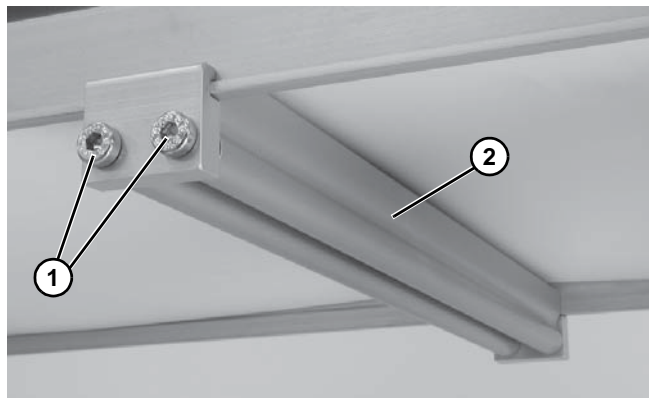

Figure 16
3. Install roller assembly as shown (**Figure 16, item 1**). Tighten screws (**Figure 16, item 2**) to 60 in-lb (7 Nm).